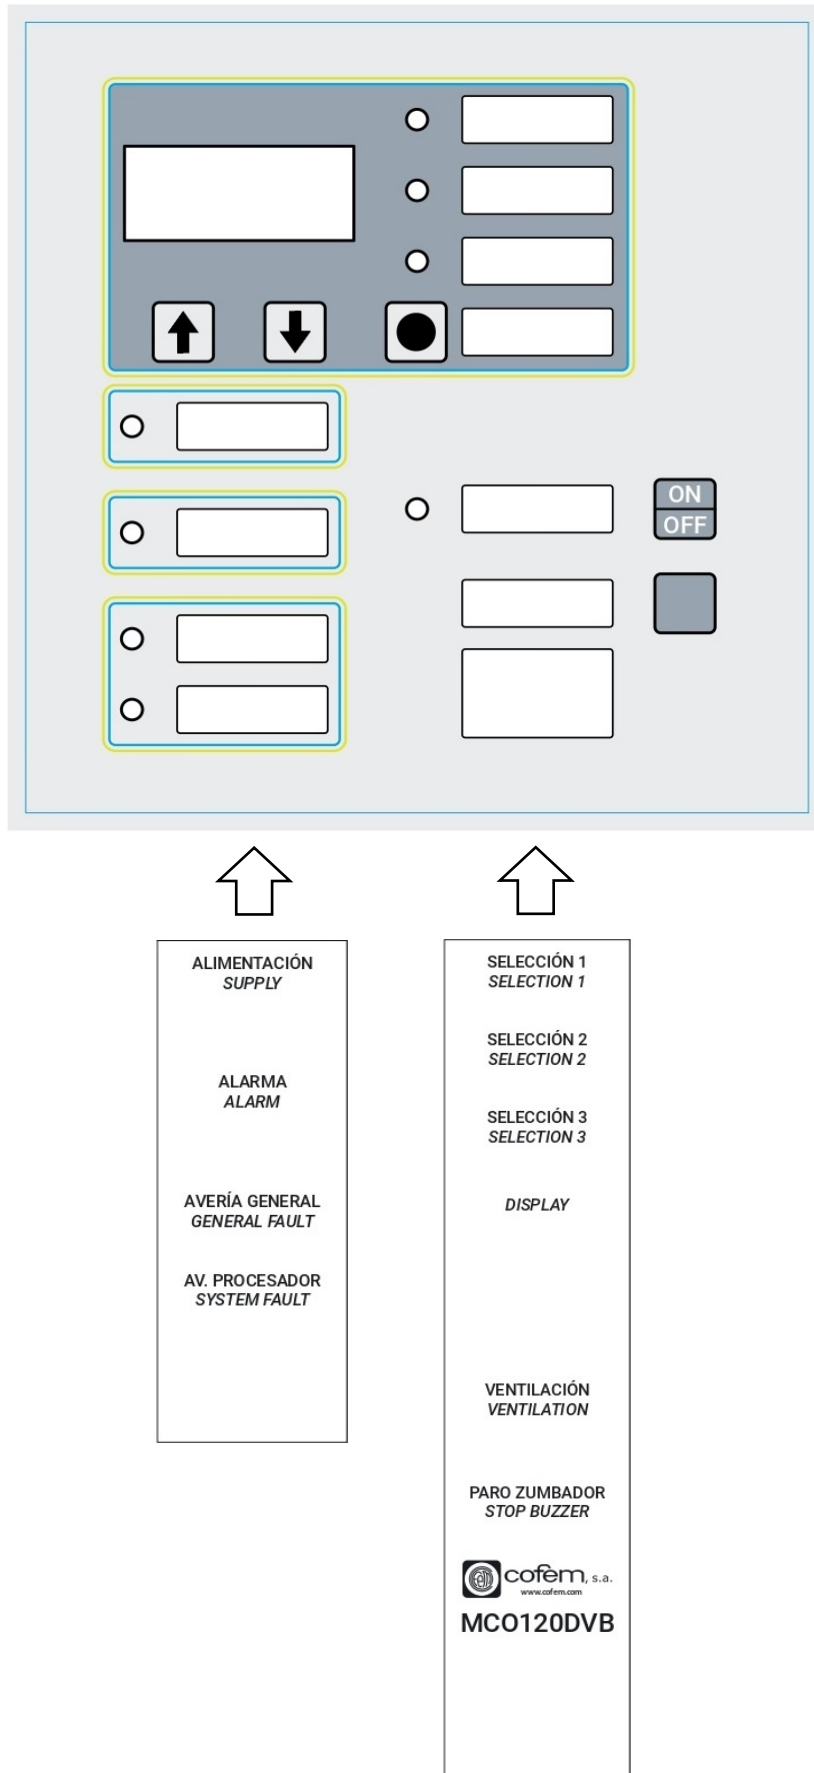
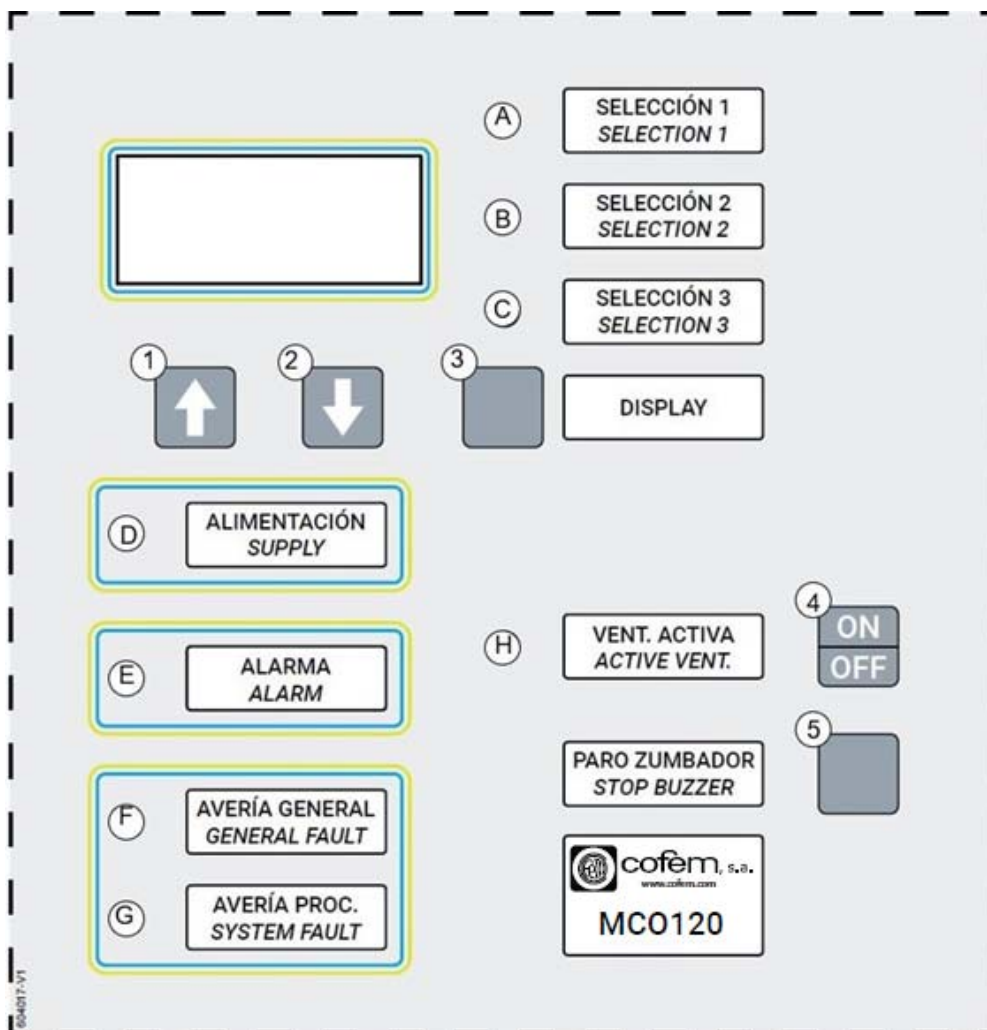

Figure 8: Control panel language selection
Figure 9: Front panel
The alarm system works in the same way as that the ventilation system with the peculiarity that, when it is activated, it also does the buzzer that incorporates panel control itself, in addition to the LED that indicates the alarm status (see *Figure 9*).
It will be activated whenever there is a fault in the system or there is no power, indicating the fault status through its corresponding LED (for more information see *Figure 9* and *Table 4*).
Together with the panel control two labels without stickers in different languages are incorporated, which describe the main functionalities of the indicators and buttons on the control panel. Once the required language has been selected, insert both labels at the bottom off the cover, as indicated by the arrows in *Figure 8*. When the labels have been inserted, the language selection process is finished.
This front panel is common to all the control panels and is represented in *Figure 9*, where the LEDs are marked with letters and the control buttons with numbers.
- 8) If the panel control model is DVB, disconnect the power supply from the panel control. The control unit must activate the buzzer and the "Power" LED (letter D in *Figure 9*) will blink. After verifying that the system is stable and continues to function normally, reconnect mains power. The power LED (letter D in *Figure 8*) must be ON and fixed.